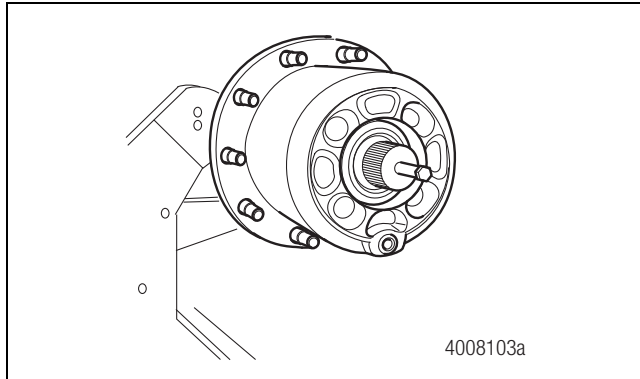

Figure 3.4
7. Pull to remove the axle shaft from the housing. If available, thread a 3/8" x 16 bolt into the end of the axle shaft to assist removal. Figure 3.4.